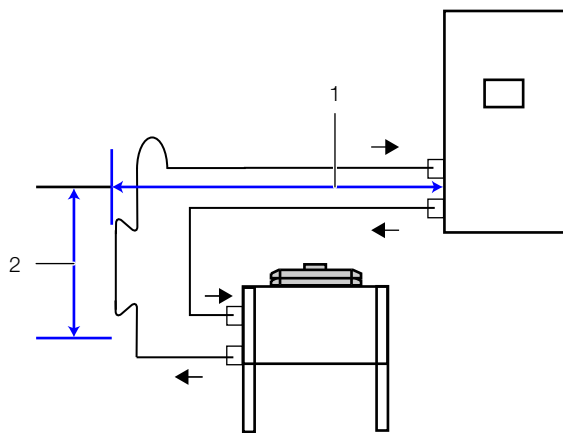
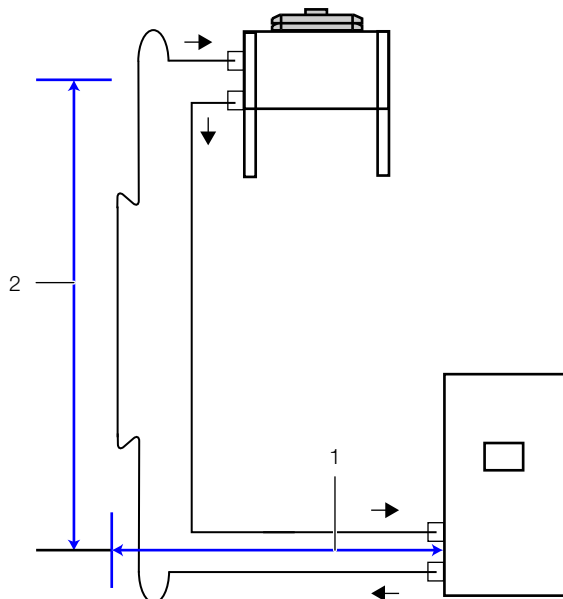

Fig. 11: Relative positioning condenser below the LCP DX
Fig. 12: Relative positioning above the LCP DX
| Sum total of horizontal (fig. 11, item 1) and vertical spacing (fig. 11, item 2 or fig. 12, item 2) between the LCP DX and the condenser | Max. 45 m overall equivalent length |
| Condenser above LCP DX (fig. 12, item 2) | max. 20 m |
| Condenser below LCP DX (fig. 11, item 2) | max. 3 m |